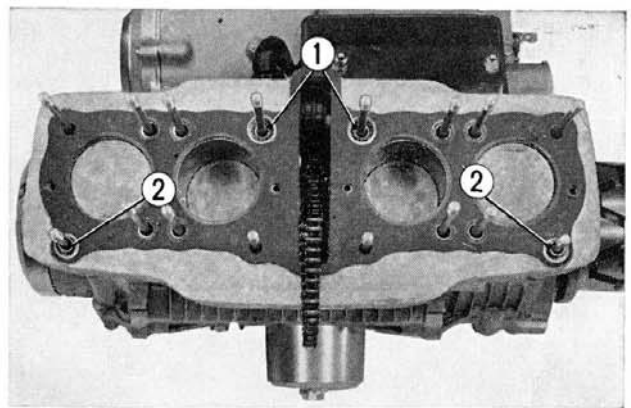

Fig. 3-37 ① "O" rings
3. On the cylinder gasket flange, assemble the two dowel pins, two O rings and the cylinder gasket, and then mount the cylinder head followed by installing and torquing the mounting nuts and bolts in accordance with Fig. 3-38. Torqued the nuts to **13.7~15.2 ft-lbs. (1.9~2.1 kg-m.)** (Fig. 3-37, 38)